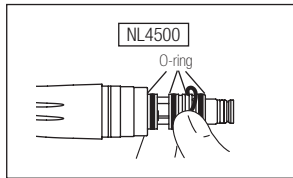

Fig. 11
- 2) Gently remove each O-ring by hand. (Fig. 11)